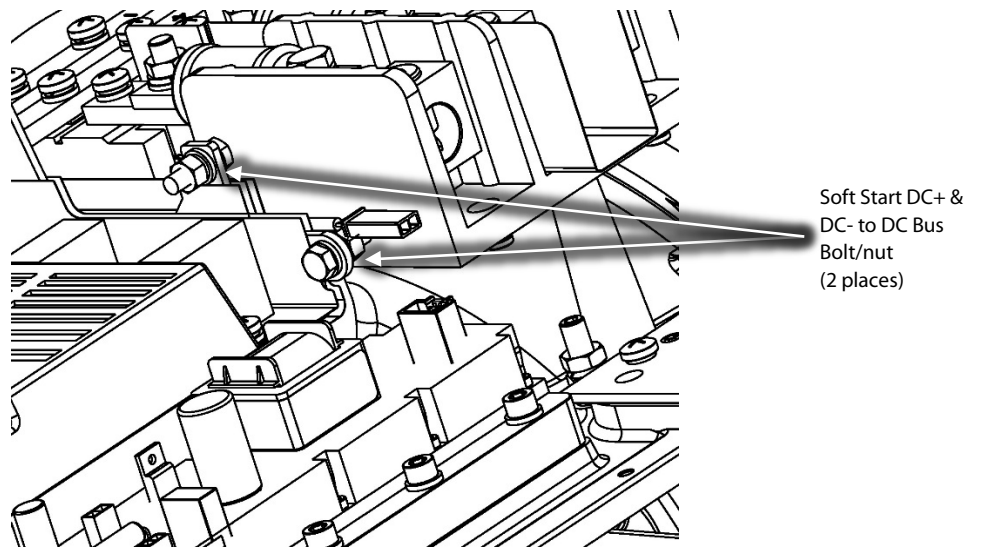

Figure 10 – Soft Start Harness Removal
20. Disconnect the DC+ and DC- of the Soft Start harness from the DC bus assembly noting the orientation. Refer to Figure 10 (Soft Start Harness Removal).